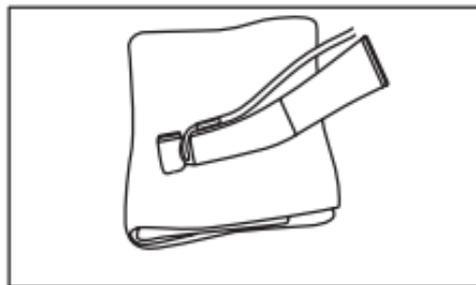

Fig. 9
3) Wipe the exterior of the handpiece clean using a cloth moistened with disinfectant or ethanol with a concentration of 60-90% (Fig. 9).